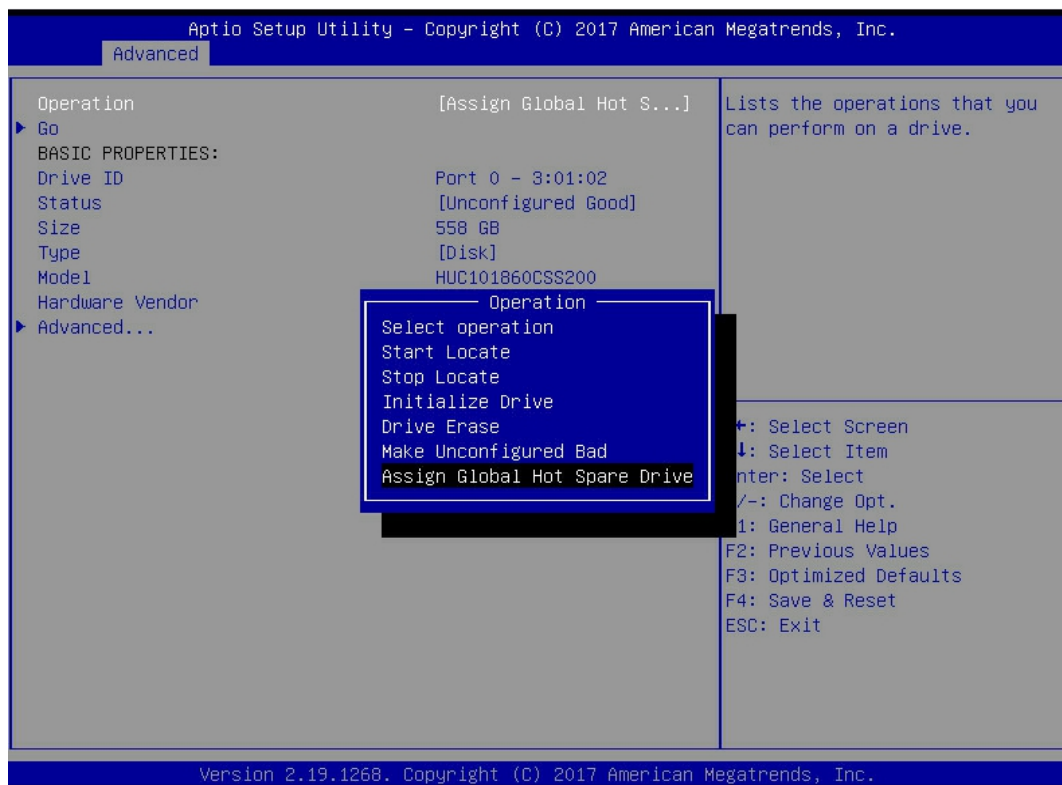

Figure 6-45
c) Enter the interface shown in figure 6-45, select operation, press enter, then select assign assigned hot spare drive and press enter.
✧ Figure 6-45 operation interface